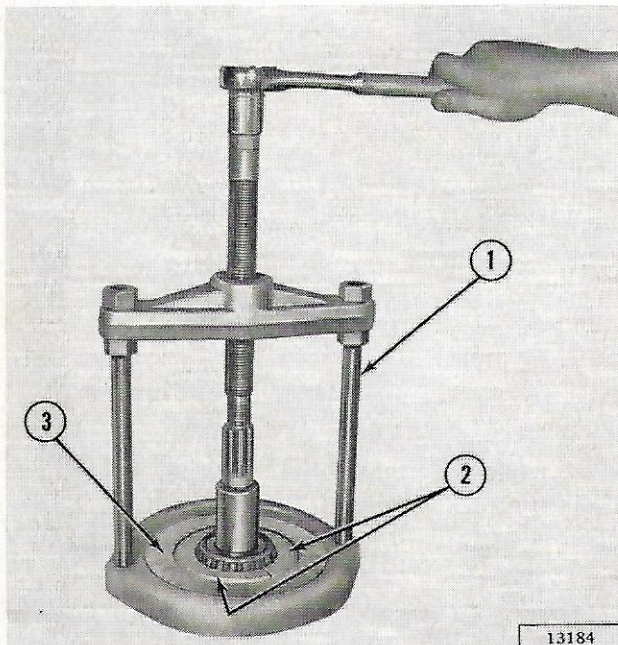

FIG. 11-8—PULLING INNER PINION BEARING
**b.** To remove the Model 70 rear axle pinion inner bearing cone and rollers, use Tool DD-914P with Holding Ring DD-914-8 and Adapter DD-914-95, as shown in Fig. 11-8. To remove the Model 60 front axle pinion bearing cone and rollers, use